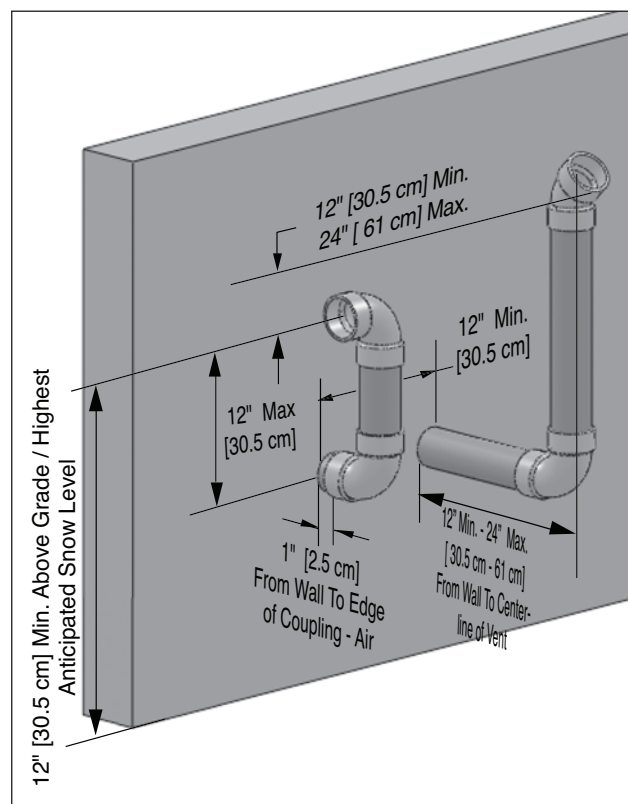

Fig. 9: Direct Vent - Sidewall Snorkel Termination of Vent and Combustion Air Piping with 45° Vent Termination
- Using a 45° elbow as shown in Figs. 9 or 11, page 15.
- Using a 45° elbow as shown in Fig. 9 or 11, page 15.